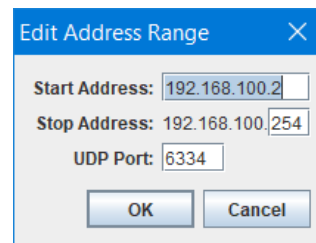

Figure 5-4 Edit Address Range Dialog
- c. Enter range information and click **OK** in the Edit Address Range dialog (**Figure 5-4**). Then click **Done** in the Address Ranges window.